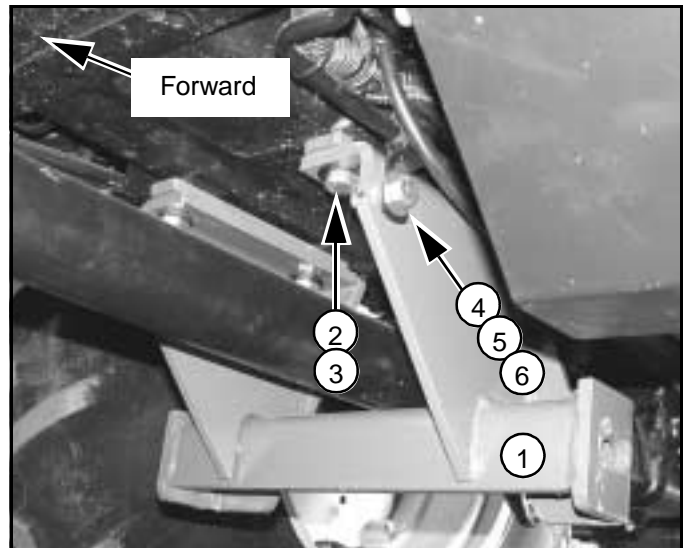

Figure 3 Front Support Installed
1. Remove cap screw (4) and hose holder (5) from bottom of tractor chassis.
2. Install front hanger (1) to bottom of tractor chassis and secure using four cap screws (2) and flat washers (3) as shown in Figure 3.
3. Install cap screw (4), hose holder (5) and hex lock nut (6) to left front corner of front support.